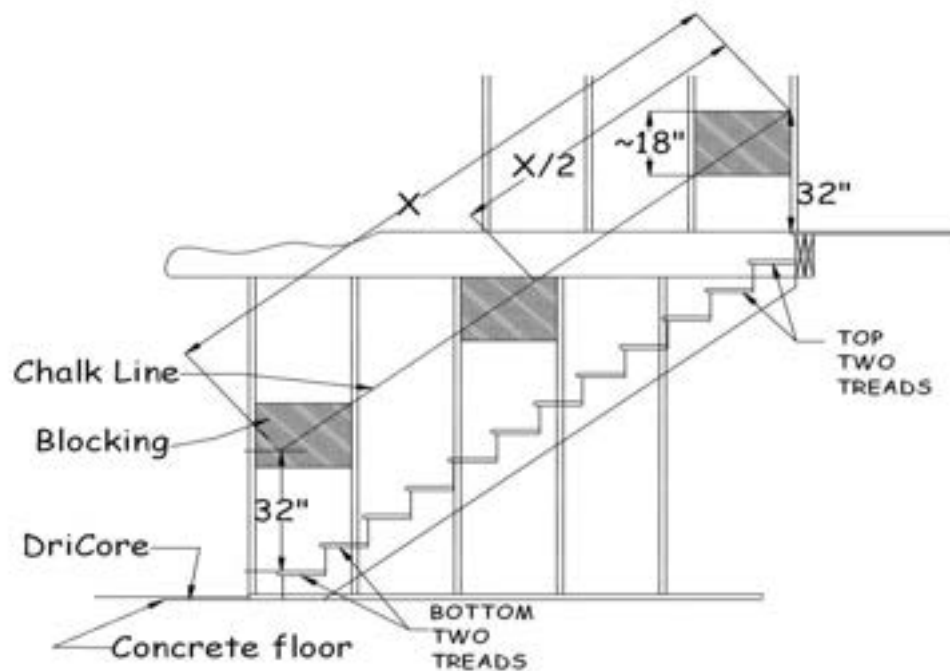

Figure 10-8. Blocking for Handrail.
2. The handrail bracket bottom screws will be mounted approximately 31” above a line that is defined by the nose of the treads. This will place the top of the handrail between the required 34” and 36” above the nose of the treads. To provide some latitude in the placement, measure up 32” from the decking, vertically at the edge of the floor deck, and mark the wall at that height. At the bottom of the stairs, again measure up 32” from the nose of the bottom stair tread. Snap a chalk line between the top and bottom marks. The blocking must be installed so that the top corner toward the top of the stairs is on or above this chalk line, and the bottom corner toward the bottom of the stairs is on or below this line (see Figure 10-8).
3. For blocking, use a combination of scrap 2x12’s, 2x10’s or 2 x6’s to equal a minimum height of 18” (see Figure 10-8). The extra height helps to ensure that handrail brackets will be secured to the blocking after sheetrock is installed.